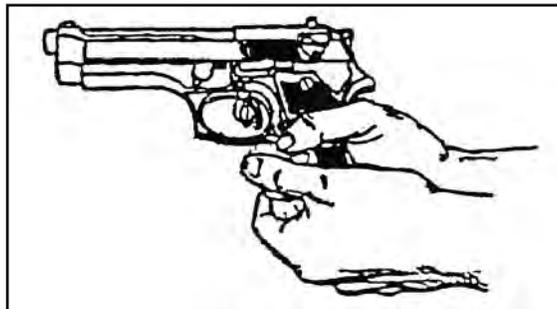

Figure 071-004-0006-4. Palm-supported grip
(3) Weaver grip (figure 071-004-0006-5). Apply this grip the same as the fist grip, but wrap your nonfiring thumb over your firing thumb.